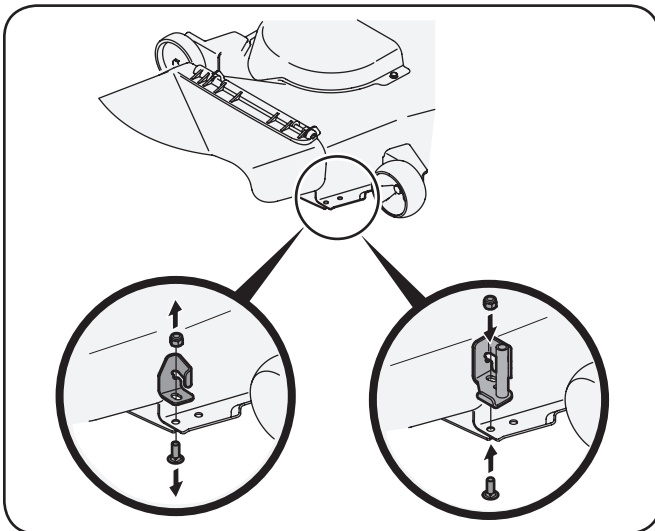

Figure 4-20
1. Remove the carriage bolt and lock nut holding the chute stop to the deck. See the left Inset of Figure 4-20. Save the hardware.
2. Install the new chute stop bracket, from the loose parts, at the same position on the deck. See the right Inset of Figure 4-20. Secure with the hardware removed earlier.